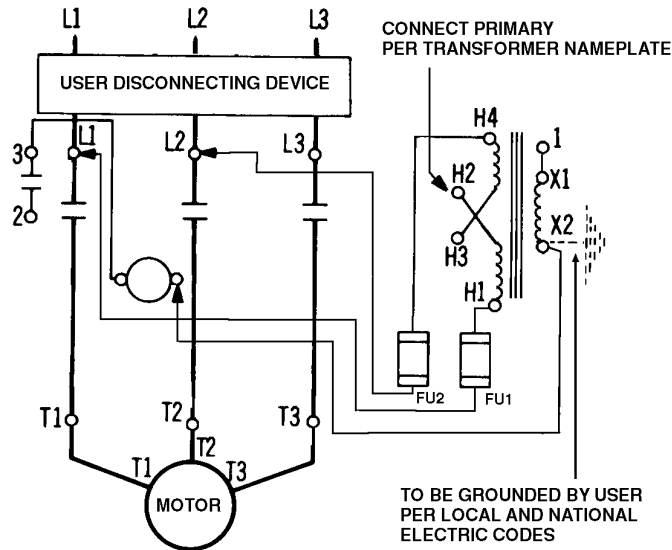

Figure 2 **Wiring Diagram for Contactor**
3. Wire per diagram in Figure 2 on page 2 of this bulletin.
When mounting the transformer unit onto contactor, wire per diagram in Figure 2.